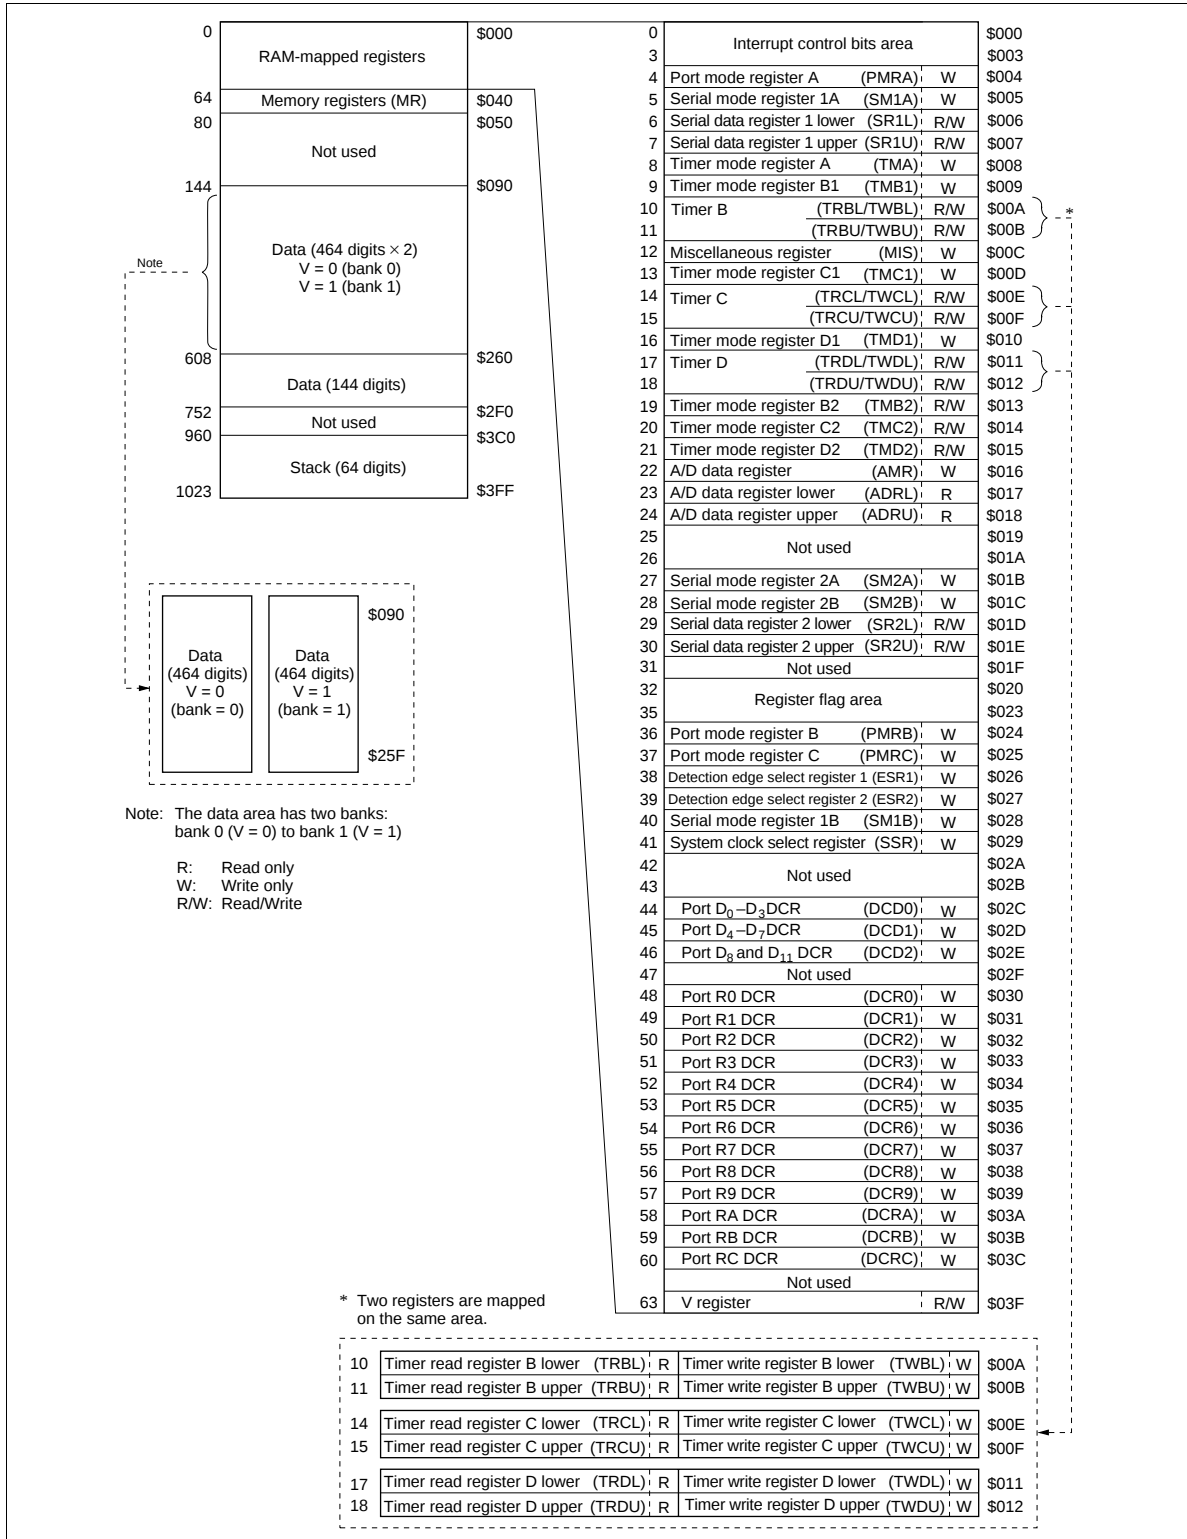

Figure 2 RAM Memory Map
The MCU contains a 1,152-digit $\times$ 4-bit RAM area consisting of a memory register area, a data area, and a stack area. In addition, an interrupt control bits area, special register area, and register flag area are mapped onto the same RAM memory space as a RAM-mapped register area outside the above areas. The RAM memory map is shown in figure 2 and described as follows.
This area is used as mode registers and data registers for external interrupts, serial interface 1, serial interface 2, timer/counters, A/D converter, and as data control registers for I/O ports. The structure is shown in figures 2 and 5. These registers can be classified into three types: write-only (W), read-only (R), and read/write (R/W). RAM bit manipulation instructions cannot be used for these registers.